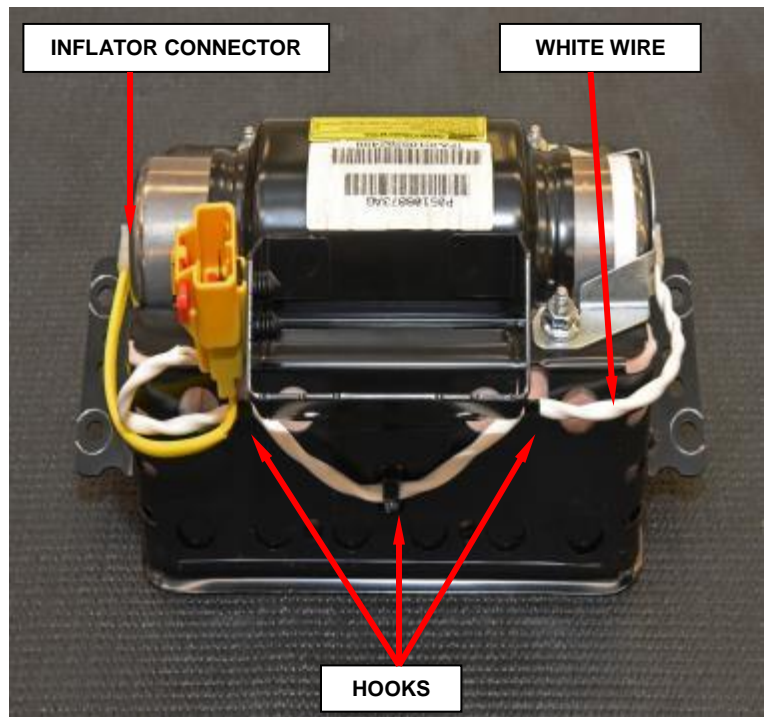

Figure 87 – Retrofit Complete
- l. Attach the white wire to the three hooks on the housing (Figure 87).
- n. Connect the single yellow wire inflator connector to the end of the inflator after removing the protective tape from the end of the inflator (Figure 87).
- o. Passenger airbag retrofit is complete (Figure 87).